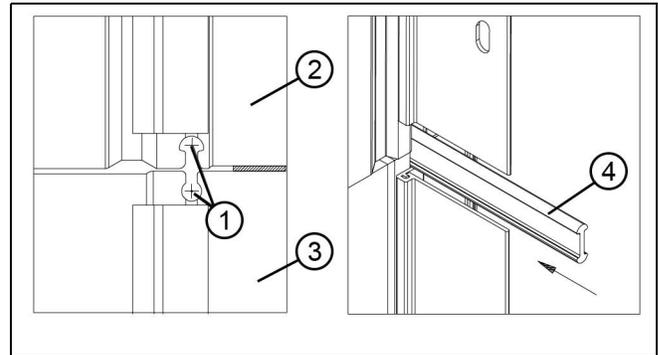

Figure 32
3. Drill out the outer edges of the nailing fin/drip cap kerf at the mullion with a 3/16" drill bit as shown in illustration 20. Clean filings from drilled area to ensure easy installation of the mull pin. Insert mull pin the full length of the mullion ensuring that it is recessed 1/4" to allow for sealant and horizontal mull pin application later. If necessary drive the mull pin with a hammer. See Figure 32.